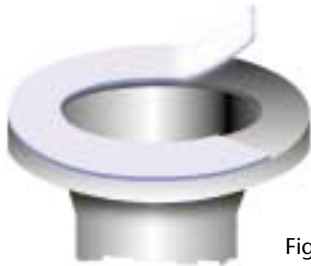

Figure 3
2.4 Remove the adhesive backing a little at a time to prevent the adhesive strip from picking up dirt during installation. The gasket tape is then firmly pressed onto the sealing face (figure 3). We recommend that you work in twos for this.